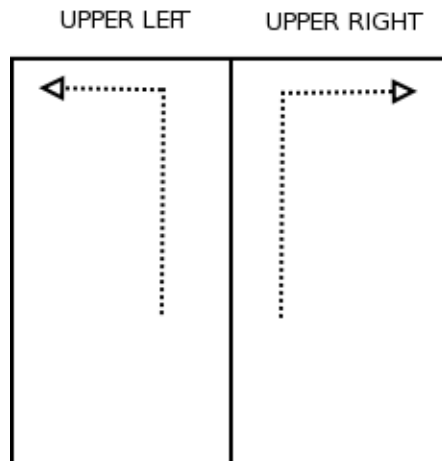

Figure 1.2: Upper Left (UL) and Upper Right (UR) amplifiers
- The amplifier “type” indicates in which direction it is readout. Available types are: Lower Left (LL), Lower Right (LR), Upper Left (UL) and Upper Right (UR). *Figure 1.2* shows the reading directions for UR and UL. The long line shows the parallel clock and the short one with the arrow, the serial direction. Note that a UR is a flipped UL, etc.